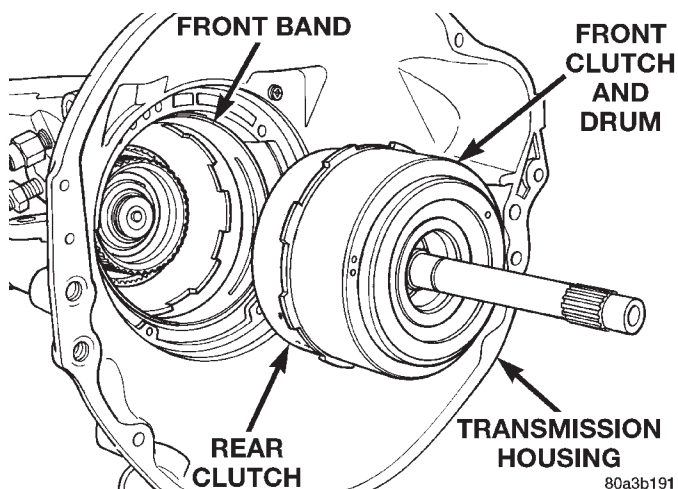

Fig. 75 Front/Rear Clutch Assemblies
(18) Remove front and rear clutch units as an assembly. Grasp input shaft, hold clutch units together and remove them from case (Fig. 75).